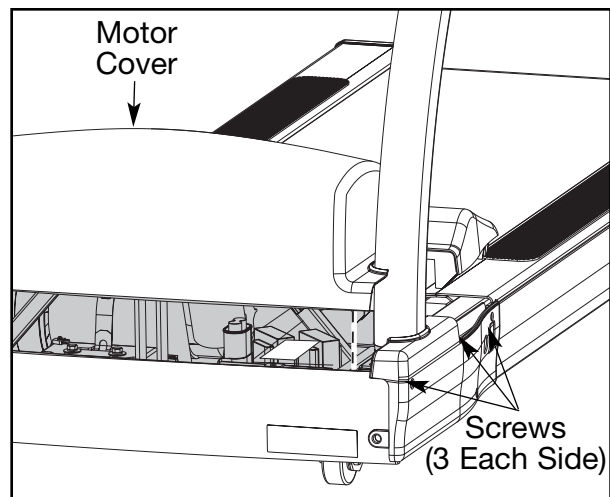

Figure 2
- A.** Turn the main power switch on the left side to the off (O) position.
- A.** Using a Phillips head screwdriver, loosen three screws on each motor cover side (left and right). See Figure 2.
- B.** Lift the motor cover up and off the treadmill. The screws will stay in place. See Figure 2.
- A. Lower the motor cover center into position. See Figure 2.